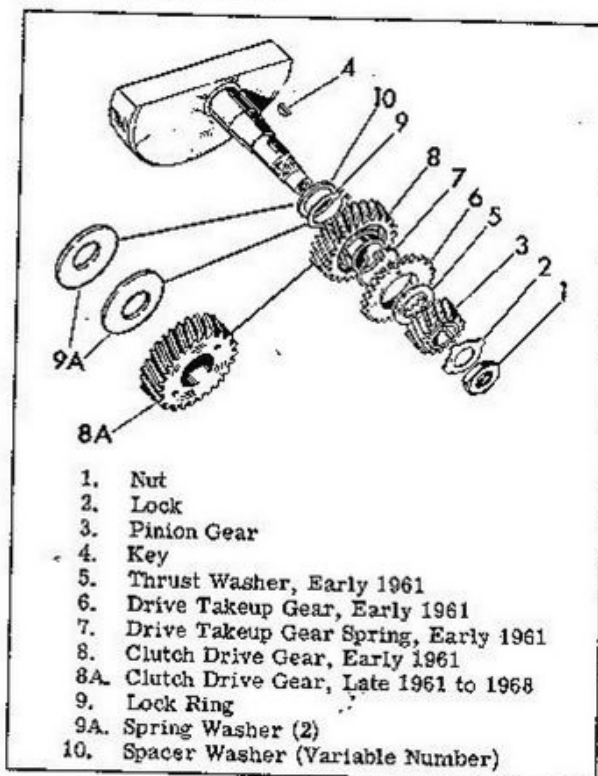

Figure 3D-35. Pinion Shaft Gears - Exploded View
Remove pinion gear (3) with tool Part No. 97292-61P, Two Jaw Puller, as shown in Figure 3D-37.
of key to identify keyway before removing key. See Figure 3D-38.
To remove clutch drive gear (8 or 8A) using Drive Gear Puller, Part No. 97294-61P, hold clutch hub with tool Part No. 97291-61PA, Hub Wrench, and an engine mounting bolt located in crankcase hole as shown in Figure 3D-39.